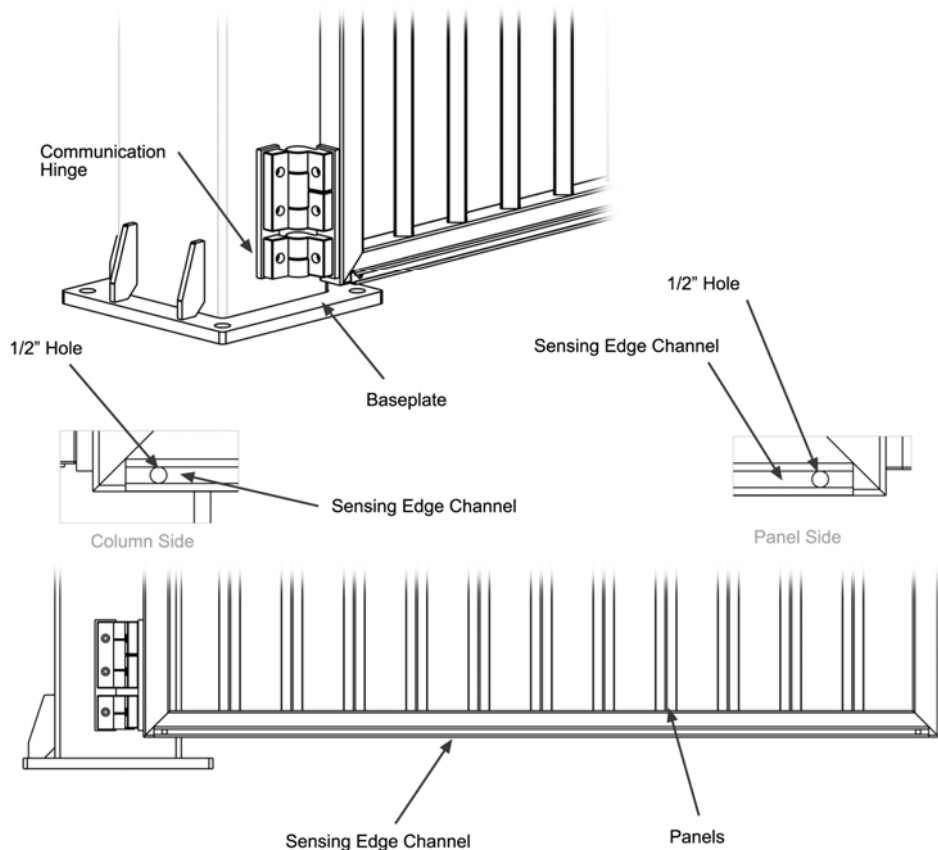
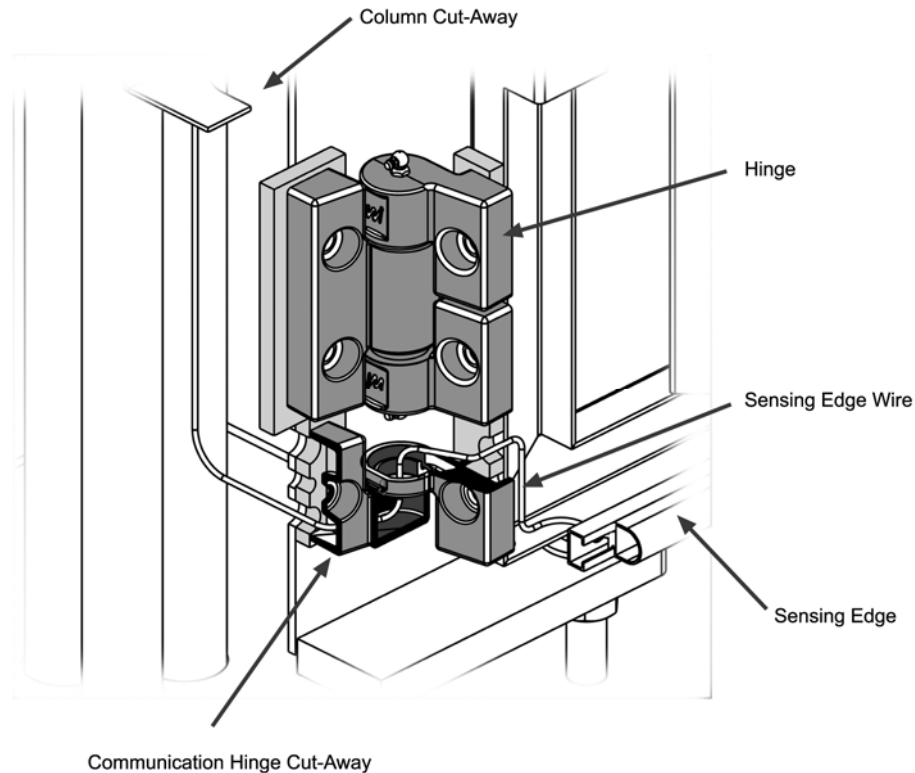

FIGURE 6.0
FIGURE 6.1
3. On the bottom of each gate panel with a communication hinge between the panels and between the panel and the column. (see figure 6.0) To see a detail of the wire being run through the hinge please see figure 6.1.
2. A hole must be drilled  $\frac{1}{2}$ " in size 1" from end of the each side of the aluminum channel into the gate frame. (see figure 6.0)